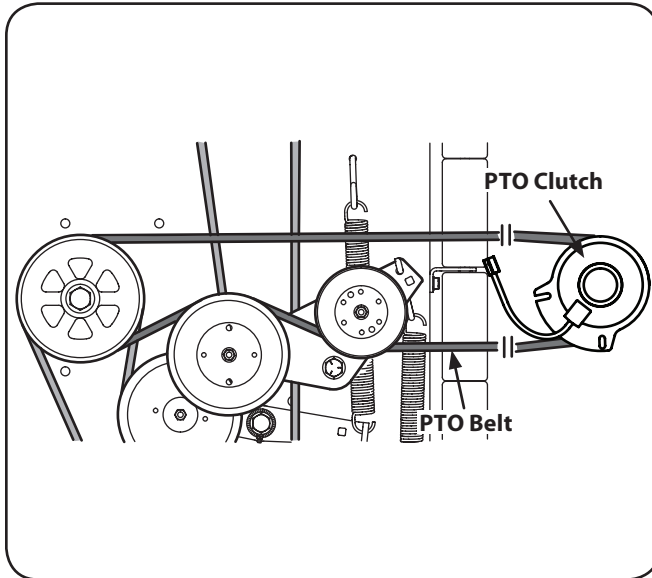

Figure 7-5
1. Remove the PTO belt from the deck as instructed in the Deck Removal section then remove it from around the PTO clutch. See Figure 7-5.
2. Route the PTO belt as shown in Figure 7-5. After routing the belt around the PTO pulley, use a 1/2" drive in the idler pulley bracket and turn towards the right of the tractor to finish routing the belt around the idler pulley.